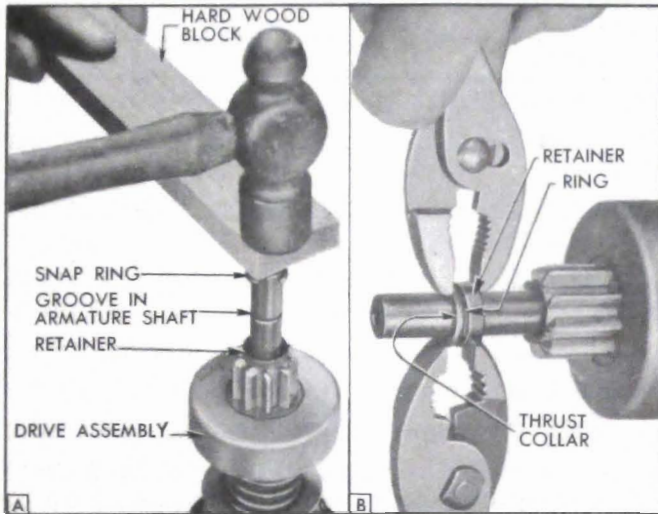

Figure 10-40—Pinion Stop Retainer and Snap Ring Installation
3. Stand armature on commutator and place a *new* snap ring on drive end of shaft and hold it in place with a hard wood block. Strike block with hammer to force snap ring over end of shaft, then slide the ring down into groove in shaft. See figure 10-40, view A.
sides of shaft squeeze retainer and thrust collar together until snap ring is forced into the retainer. See figure 10-40, view b.